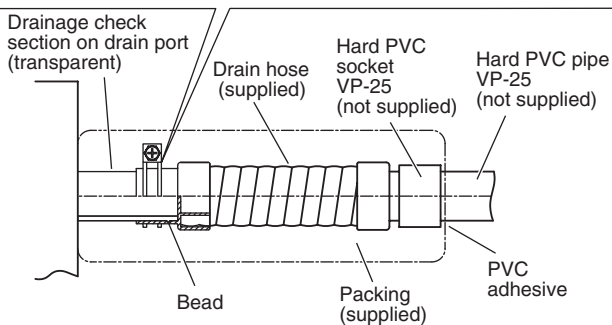

Fig. 2-113
- Prepare standard hard PVC pipe (O.D. 32 mm) for the drain and use the supplied hose band to prevent water leaks. The PVC pipe must be purchased separately. The transparent drain part on the unit allows you to check drainage. (Fig. 2-113)
- Tighten the hose clamps so their locking nuts face upward. (Fig. 2-113)